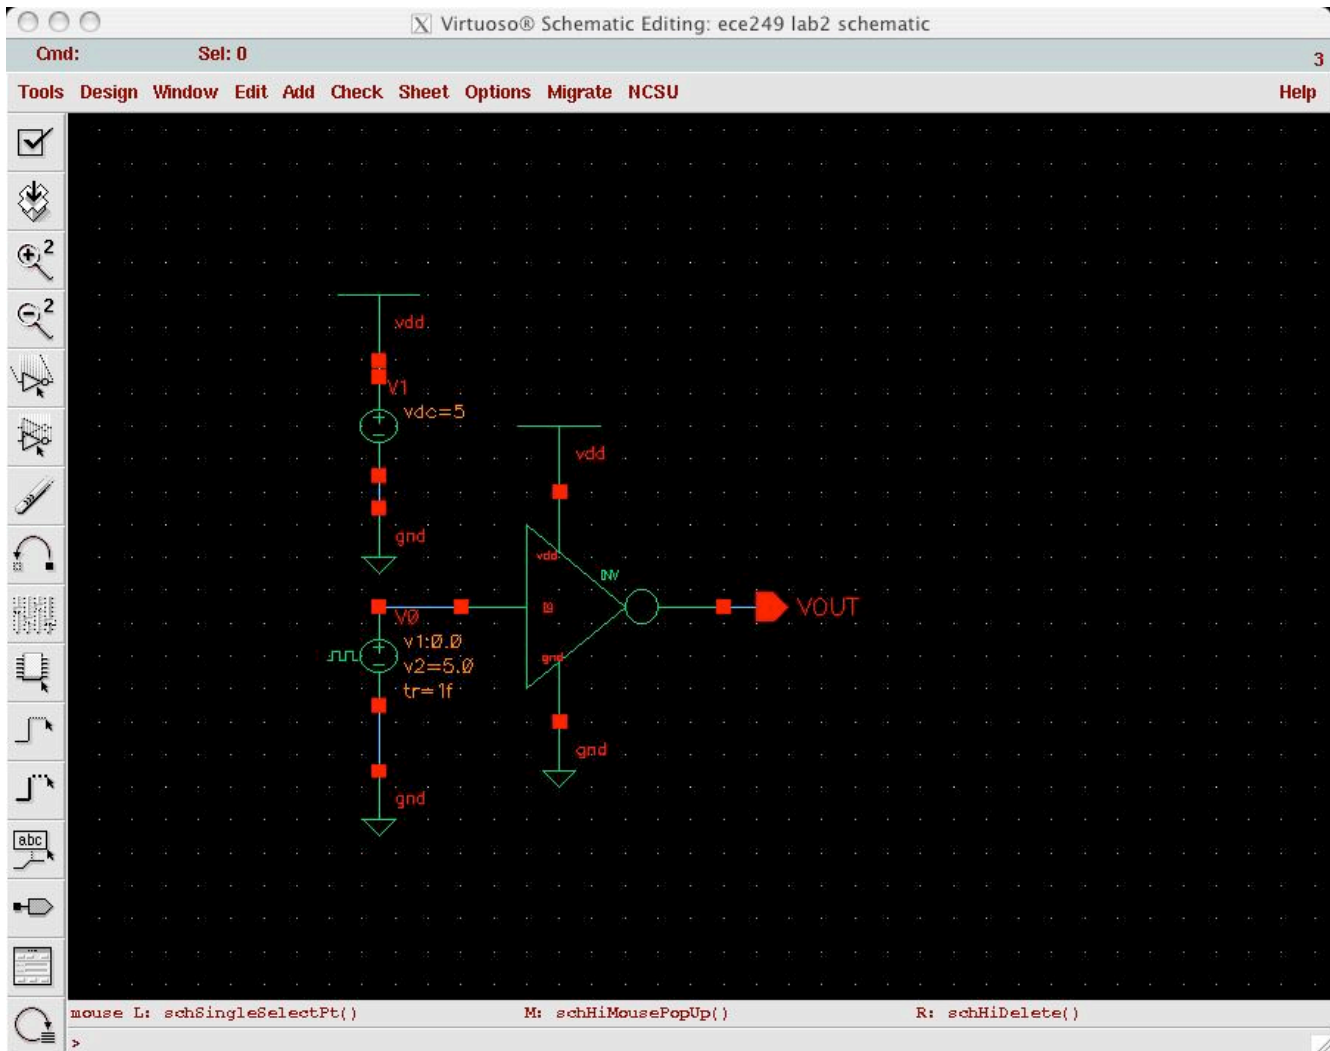

Fig. 4. Single inverter.
Step 2: Create the following schematic as shown in Figure 4. It should be similar to the **testinv** schematic from Lab 1. Set the properties of the **vpulse** to make a 5V square wave. You will need to change the fall and rise times to 1f s. Also change the pulse width to 6 ns.